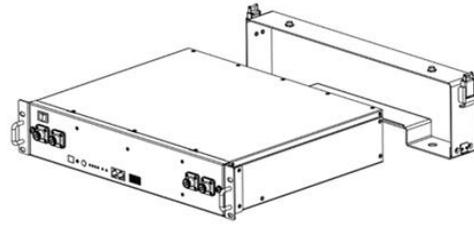

Figure3-4
1. Place the B4850 and a bracket as shown in the figure3-4, and insert the B4850 into the bracket.